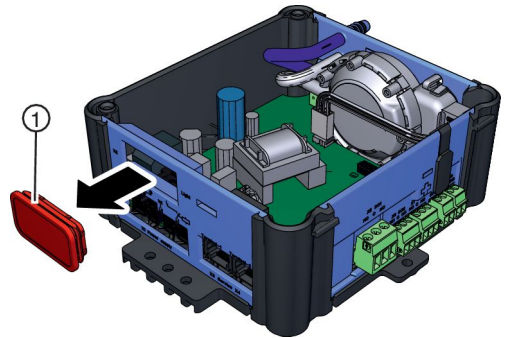

Fig. 12: Removing the cover plate
2. ▶ Remove the cover plate (Fig. 12/1).